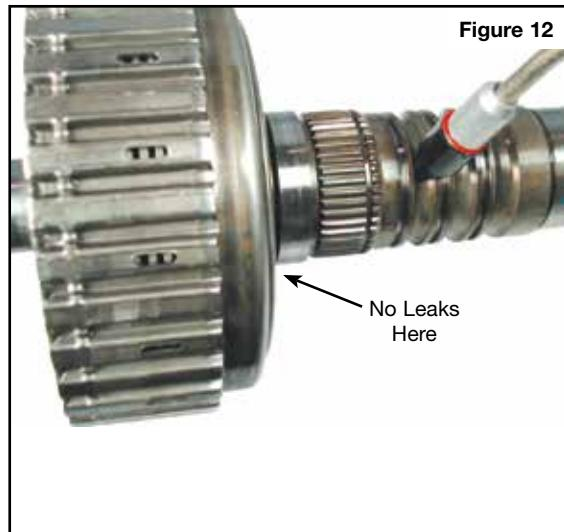

Figure 12
- Assemble the direct clutch drum on to the output shaft (**Figure 12**).
- Squirt ATF into the direct clutch feed hole (**Figure 12**).